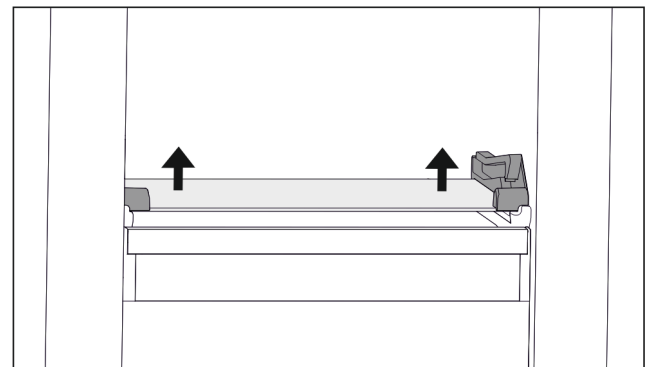

Fig. 103 Tilting drawer glass shelf
- Press the glass shelf upwards from below on both sides. (see Fig. 103)